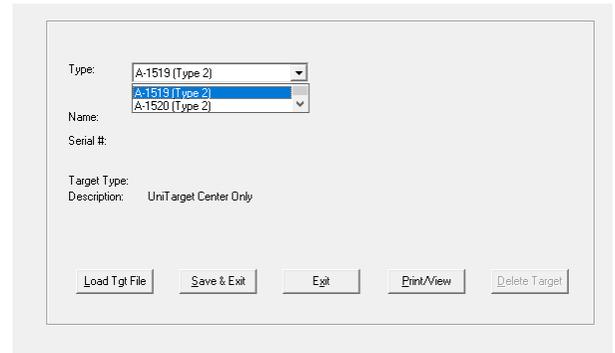

Figure 18 – New Target Screen
1. **Click New Target to display the New Target screen** (see Figure 18).